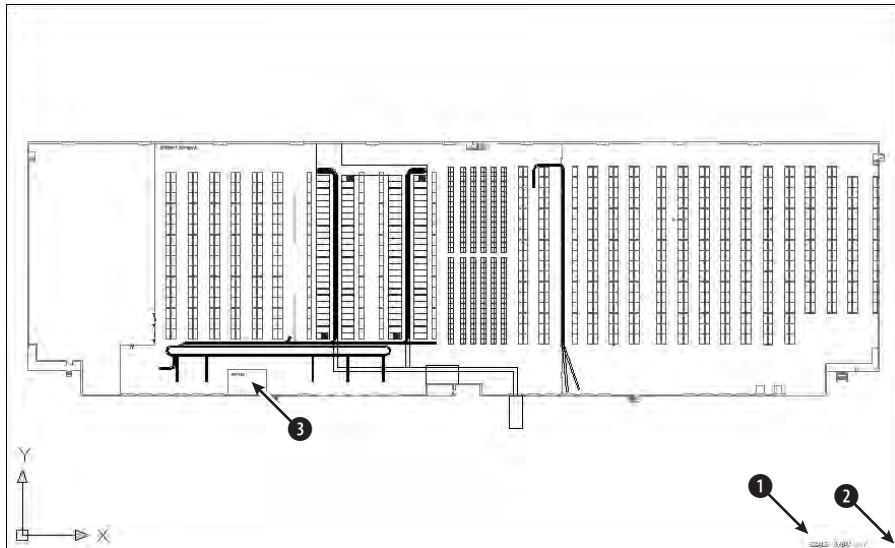
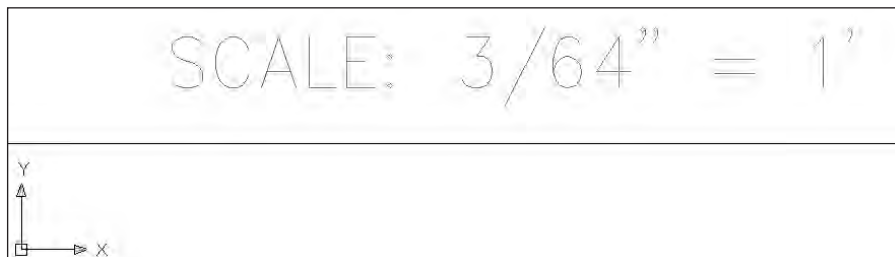

Figure 8-5: A drawing of a large warehouse, with shelving and conveyor belts
Figure 8-6: Your display should look approximately like this figure after using ZOOM Window.
1. Open *ab08-b.dwg* from the CD-ROM. This is a drawing of a warehouse, as shown in Figure 8-5.
3. At the Specify first corner: prompt, pick **1**, as shown in Figure 8-5. At the Specify opposite corner: prompt, pick **2**. AutoCAD zooms in to display the window you specified, as shown in Figure 8-6.
7.  Choose Zoom Center from the Zoom flyout. At the Specify center point: prompt, pick ③ in Figure 8-5. At the Enter magnification or height <5315.176>: prompt, type **500** ↵. AutoCAD zooms in on the office.